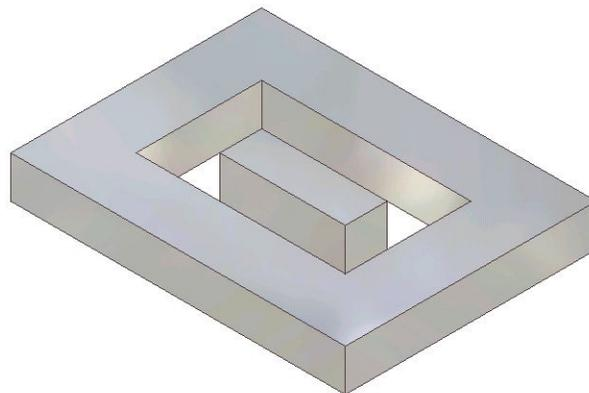
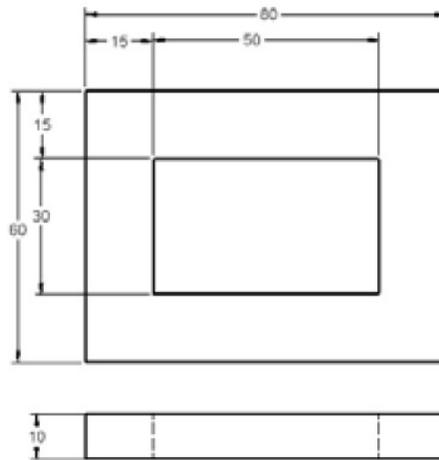
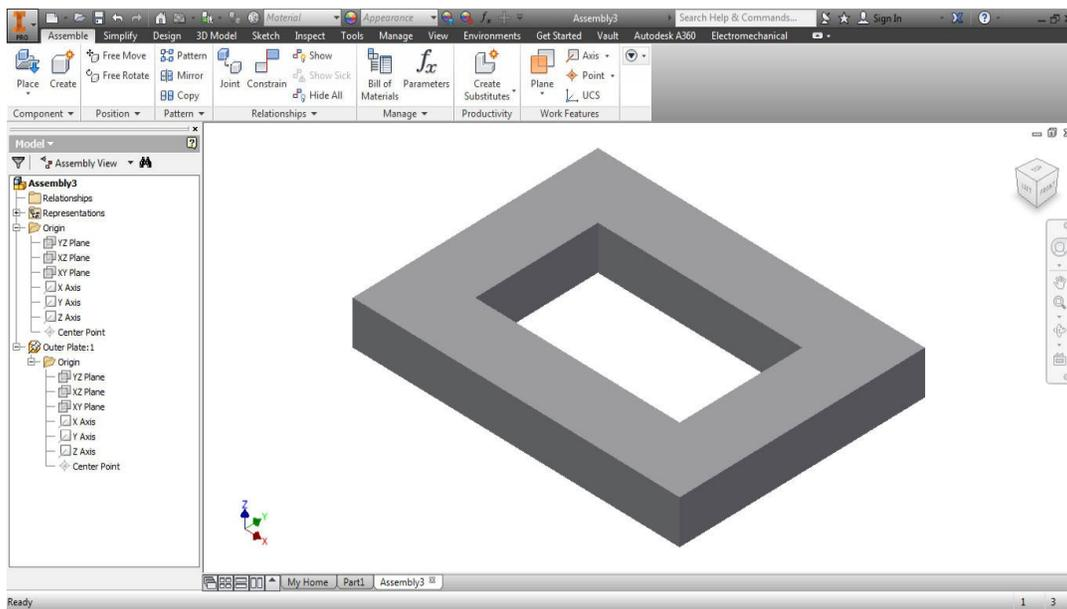

Figure 14-32 Assembly for Tutorial 2
Figure 14-33 Dimensions of the Outer Plate
Figure 14-34 Assembly after creating the Outer Plate
In this tutorial, you will create an assembly of the Outer Plate and the Inner Plate shown in Figure 14-32. The dimensions of the Outer Plate are shown in Figure 14-33. Create the Inner Plate as an adaptive part such that it automatically adjusts its size to fit inside the Outer Plate. Apply the **Mate** constraint with an offset of 10 mm to all the outer faces of the Inner Plate and the inner faces of the groove in the Outer Plate. After assembling the components, edit the inner cavity of the Outer Plate such that the Inner Plate again automatically adjusts its size.
- a. Start a new metric assembly file and then create the Outer Plate, refer to Figure 14-34.
4. Create the Outer Plate on the XY plane. After creating the Outer Plate, return to the assembly file. The assembly file after creating the Outer Plate is shown in Figure 14-34. For dimensions, refer to Figure 14-33.